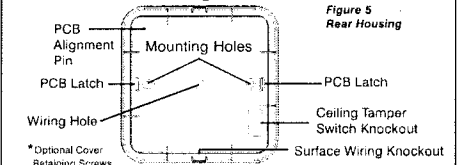
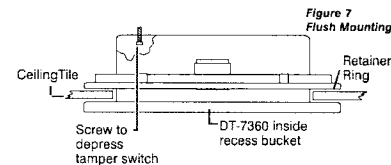

Figure 5
Figure 7
- If using the ceiling tamper, remove the tamper knockout in the rear housing (see Figure 5), and install a #6 (M 3.5) screw in the recess bucket behind the knockout. Leave enough of the screw protruding to depress the tamper switch when the sensor is mounted (see Figure 7).